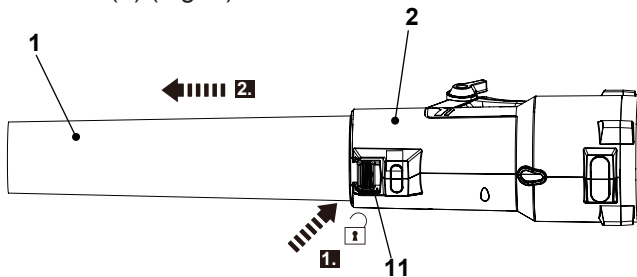

Fig. 8
3. Remove the air tube (1) from the main unit if necessary.
Press down the clamp lever (11) and hold it in position, then pull out the air tube (1) from the air outlet (2) (Fig. 8).